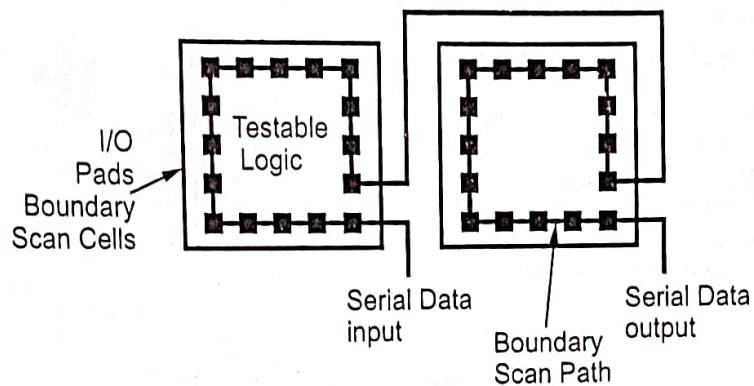

Fig. 5.2.3 Boundary scan architecture
- All the BSRs are interconnected to form a chain around the border of the circuit so as to form a single path as shown in Fig. 5.2.3 (See Fig. 5.2.3 on next page). It indicates the architecture of IEEE 1149 boundary scan.